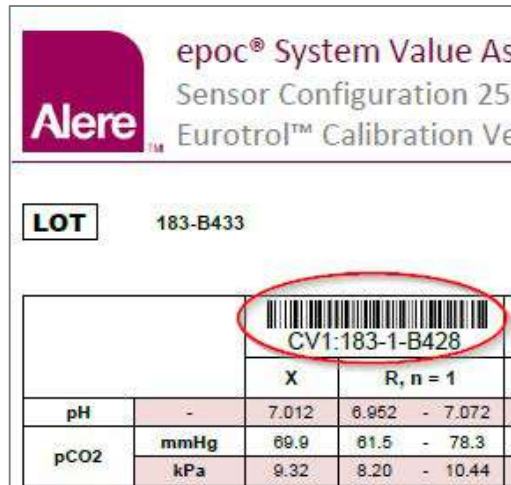

Fig. 15.
- a. Find the fluid you want to run in the printed VAD (circled in Fig. 15; Lot # shown is an example only).